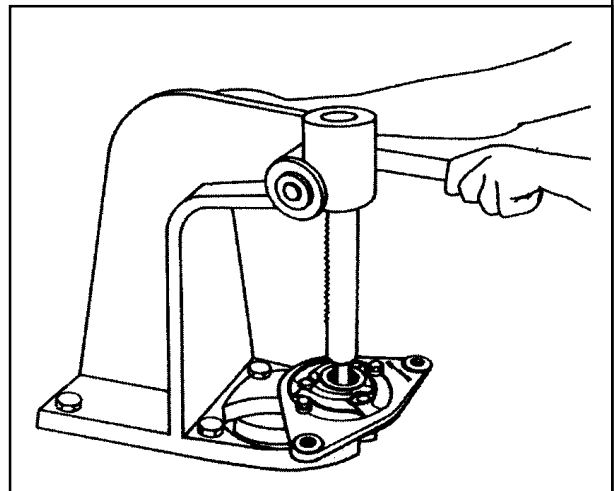

Figure 13
- Remove the screws (3 nos.) from the retaining plate and place the D.E. Bracket assembly in a fly press and press down the ball bearing from the D.E. Bracket as shown in figure 13.